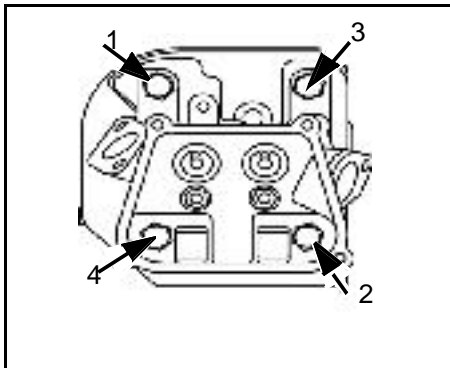

Fig. 25
- Fig. 25 (050000, 085400, 115400, 117400, 118400, 185400, and 235400, 245400)